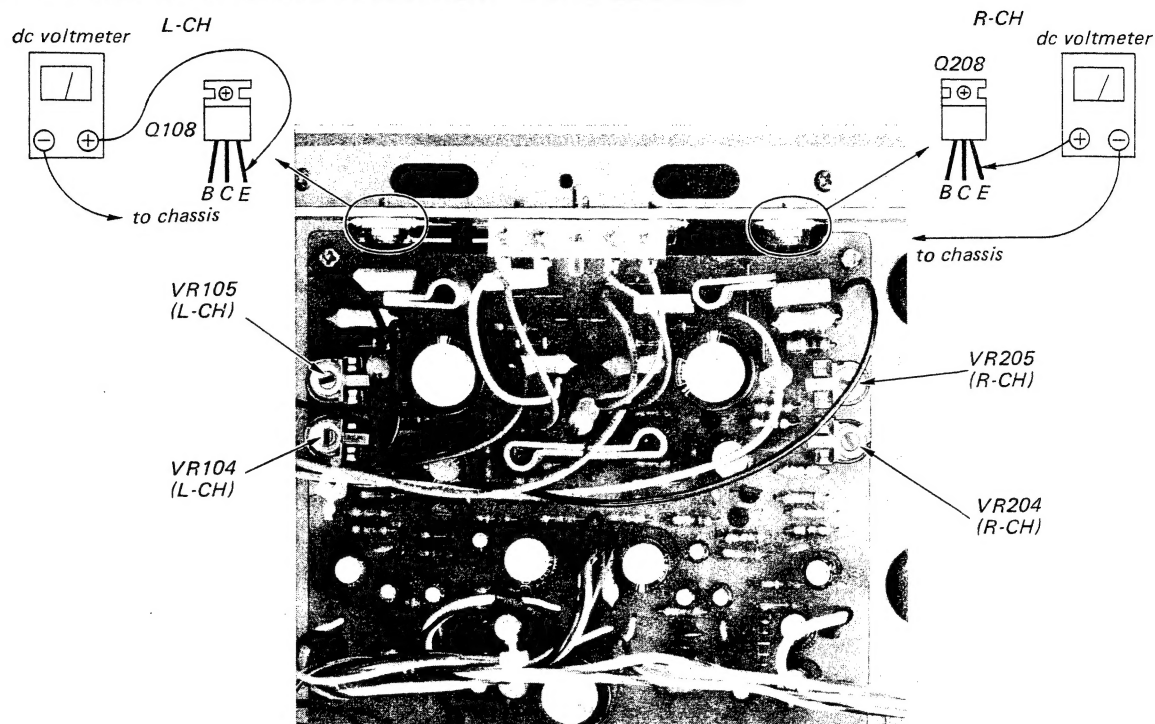

Fig. 2-1.
- To avoid accidental power transistor damage, increase the ac line voltage gradually (using a variable transformer) up to the rated value while measuring the voltage shown in Fig. 2-1.